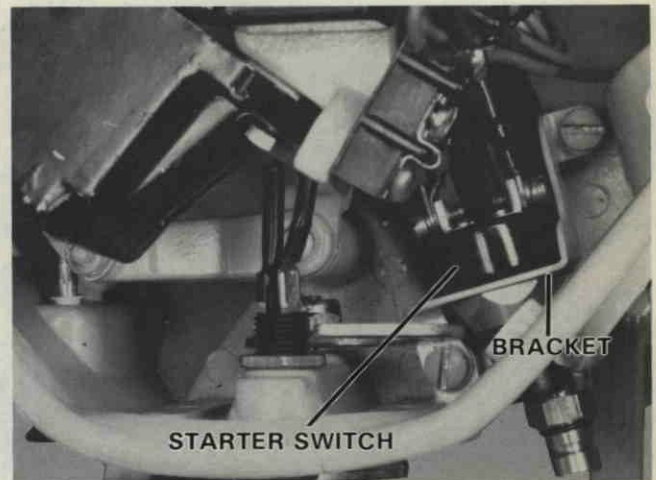

Figure 59. Connecting Leads to Starter Switch.
2. Connect red battery cable lead and red lead from circuit breaker to starboard terminal on starter switch. Connect red lead from neutral interlock switch to port terminal on starter switch. Figure 59.